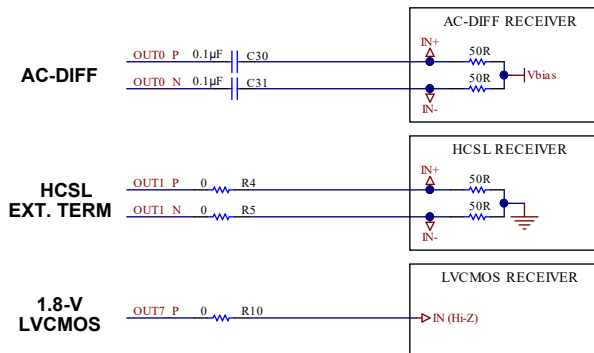

图 10-4. LMK05318B Reference Schematic Example
Figure 10-4 shows a reference schematic to help implement the LMK05318B and its peripheral circuitry. Power filtering examples are given for the core supply pins and independent output supply pins. Single-ended LVCMOS, AC-coupled differential, and HCSL clock interfacing examples are shown for the clock input and output pins. An external LVCMOS oscillator drives an AC-coupled voltage divider network as an example to interface the 3.3-V LVCMOS output to meet the input voltage swing specified for the XO input. The required external capacitors are placed close to the LMK05318B and are shown with the suggested values. External pullup and pulldown resistor options at the logic I/O pins set the default input states. The I2C or SPI pins and other logic I/O pins can be connected to a host device (not shown) to program and control the LMK05318B and monitor its status. This example assumes the device will start up from EEPROM mode with an I2C interface (HW\_SW\_CTRL = 0).
- For a 3.3-V LVCMOS driver, follow the OSC clock interface example in 图 10-4. Power the OSC from a low-noise LDO regulator or optimize its power filtering to avoid supply noise-induced jitter on the XO clock.
- Reference inputs: Follow the LVCMOS or differential clock input interface examples in 图 10-4 or in 节 9.3.3.
- Clock output Interfacing: Follow the single-ended or differential clock output interface examples in 图 10-4 or in 节 9.3.14.
- Power all the VDD pins with proper supply decoupling and bypassing connect as shown in 图 10-4.